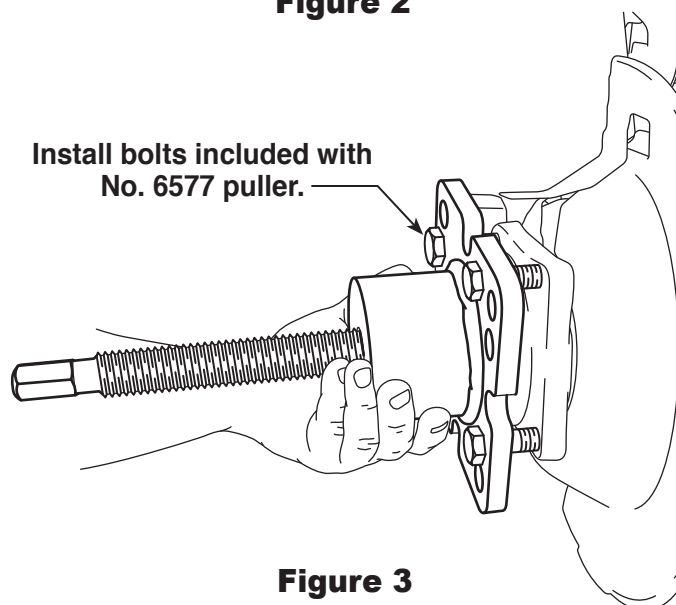

Figure 3
3. Use the four bolts (provided) to attach the puller to the wheel bearing housing. See Figure 3.